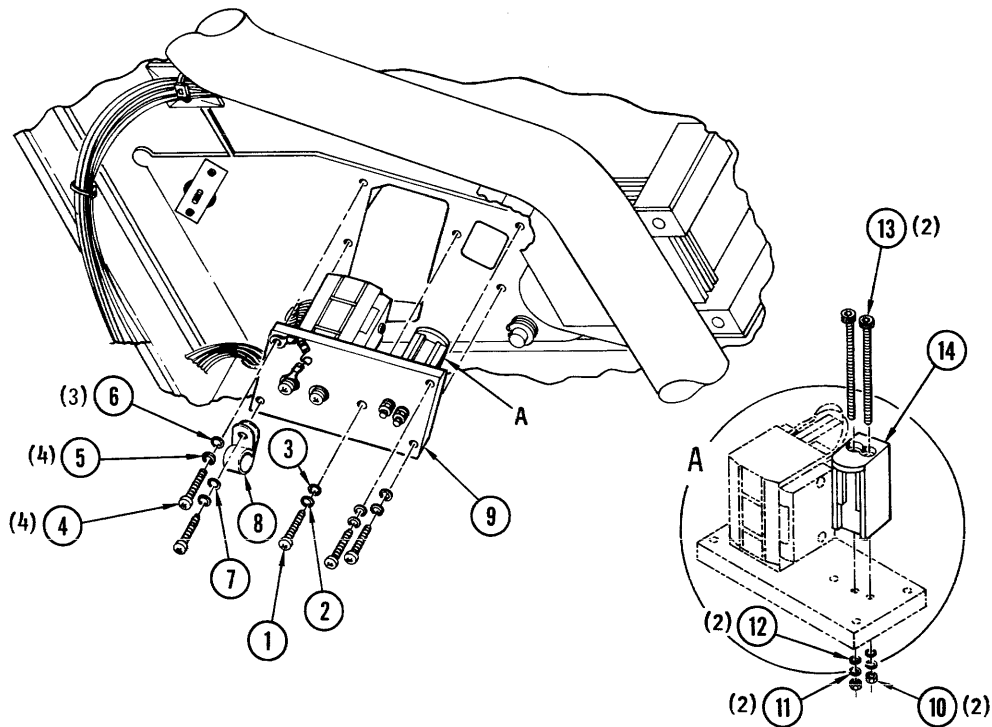

Figure 4-10. Head Assembly
4-24. **Removal and Replacement of Assembly and Parts (Figure 4-10).** Place the transport in service access position in accordance with instructions in paragraph 4-3 and proceed as follows:
It is not necessary to remove complete assembly from top plate in order to remove tape scraper (14, Figure 4-10). Refer to paragraph 4-24, f. If head is defective and in need of replacement, entire head assembly (9), including tape scraper (14) must be replaced.